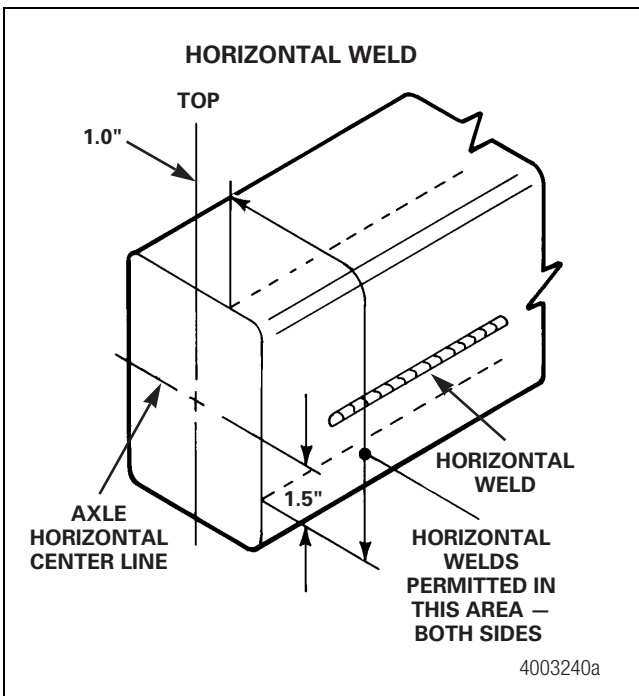

Figure 7.13
- Horizontal welding is not allowed more than 1.50-inches (38.1 mm) below the axle horizontal centerline. Figure 7.13.